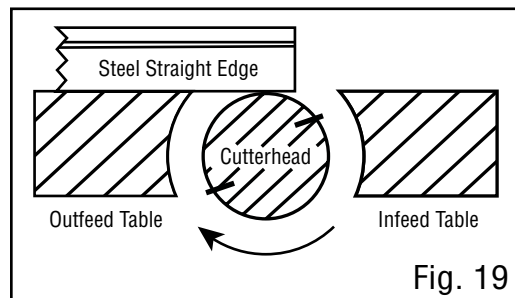

Fig. 19
4. Place a straight-edge over the outfeed table and the blade. The straight edge must touch evenly on the outfeed table at both ends of the blade. See Fig. 19.